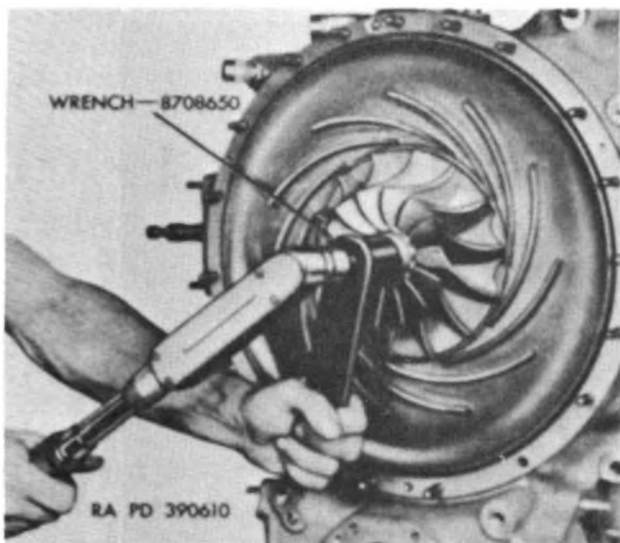

Figure 106. Removing or Torquing supercharger impeller locking nut.
impeller driven shaft gear using wrench 8708650 (fig. 106). Remove flat washer (Q).